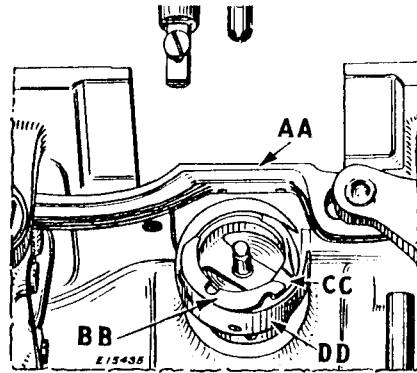

Fig. 25. Showing Correct Position of Thread Guard (DD) and Bobbin Case Holder (BB) for Removal of Sewing Hook
hub of the hook, then turn the balance wheel over toward you until the feed bar (AA, Fig. 25) is raised to its highest point. Turn the sewing hook until the thread guard (DD) is at the bottom, as shown in Fig. 25, and turn the bobbin case holder (BB) until it is in the position shown in Fig. 25. The sewing hook can then be removed from the hook shaft.
When placing a new sewing hook on the shaft, have the thread guard (DD) of the hook at the bottom and the bobbin case holder (BB) turned to the position shown in Fig. 25, so that the hook will clear the feed bar (AA).